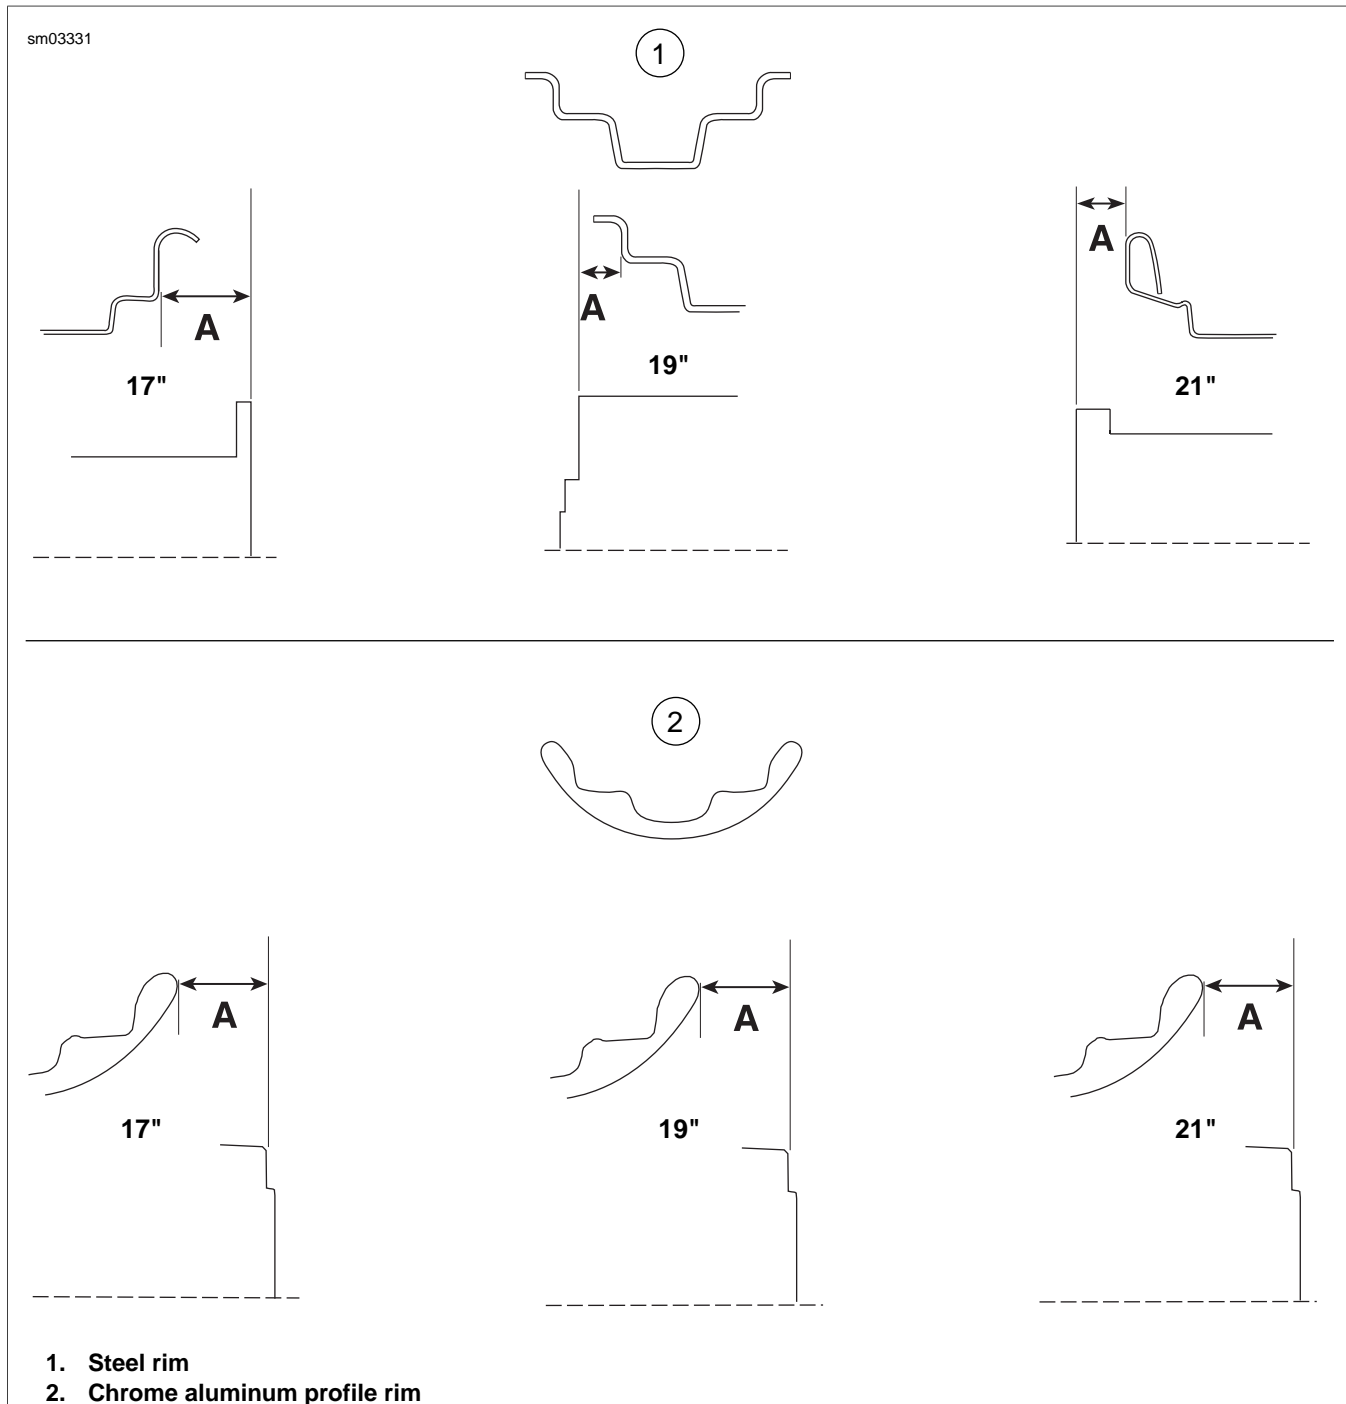

Figure 2-53. Laced Wheel Hub Offset Dimensions
4. See Figure 2-53 and Table 2-14. Measure distance "A" from the straightedge to the location as shown.